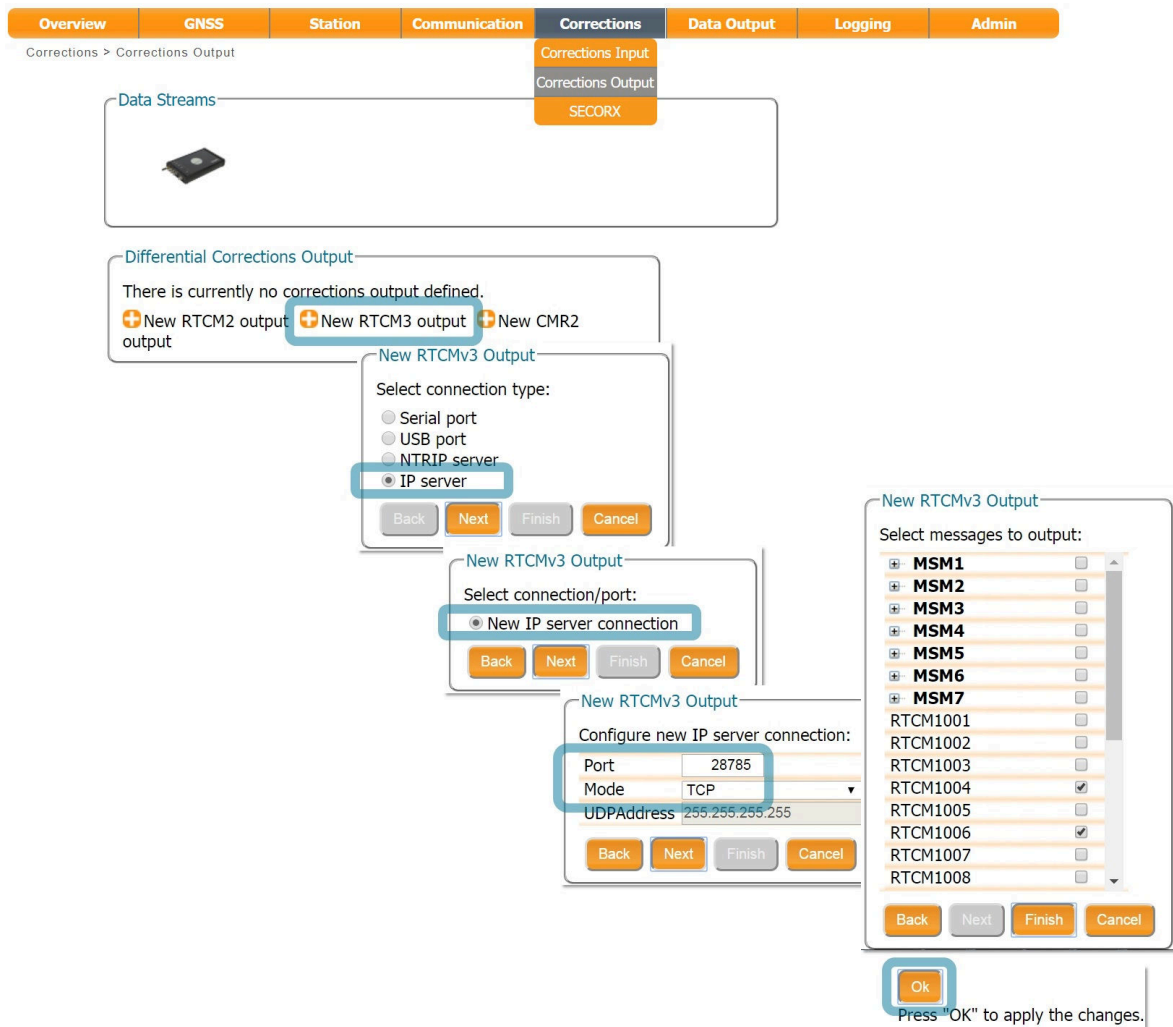

Figure 4-3: Click **New RTCM3 output** to start the configuration steps to output differential corrections over Ethernet
Output of differential corrections can be configured in the **Corrections Output** window as Figure 4-3 shows. Click on **New RTCM3 output** to start the sequence of configuration steps.
Select the Ethernet port you wish to use avoiding the commands port (28784), the webserver port (80), the FTP port (21) as well as the default NTRIP port (2101) and the NTP port (123). The example shown in Figure 4-3 uses port 28785.